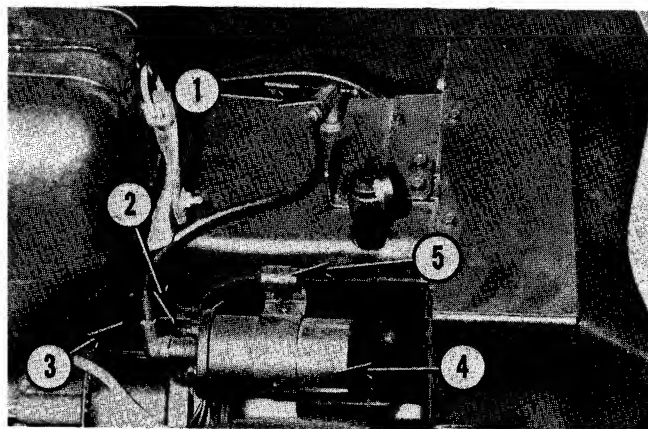
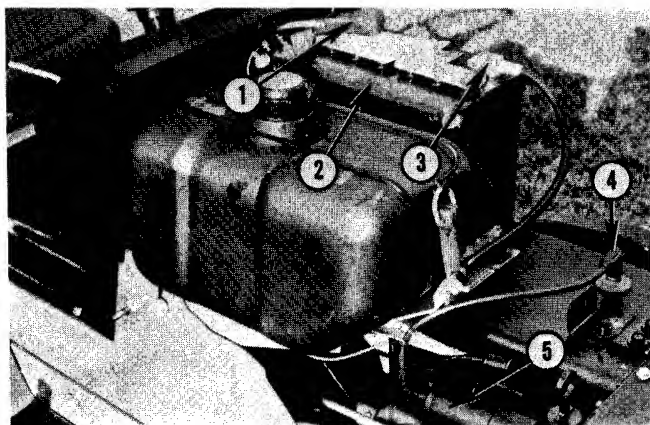

Fig. 11 — Rectifier-Regulator
Fig. 12 — Battery
2. If battery loses its charge and requires jumping, make sure alternator is disconnected. To disconnect, pull connector, No. 2, Fig. 11, from rectifier-regulator, No. 3. Failure to do so can cause damage to alternator when battery is jumped. When using a booster battery, always connect cables positive (+) to positive, and negative (-) to negative, Fig. 12. Battery posts are marked. If battery requires charging, always remove from Tractor. Reconnect plug in rectifier-regulator after engine is started.